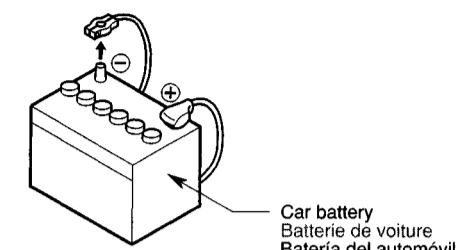

Figure 1 / Figure 1 / Figura 1
- Be sure to disconnect the battery “-” terminal before starting. This is to prevent short circuits during installation. (Figure 1)
- S'assurer de débrancher la borne “-” de la batterie avant de commencer. Cela évitera les court-circuits pendant l'installation. (Figure 1)